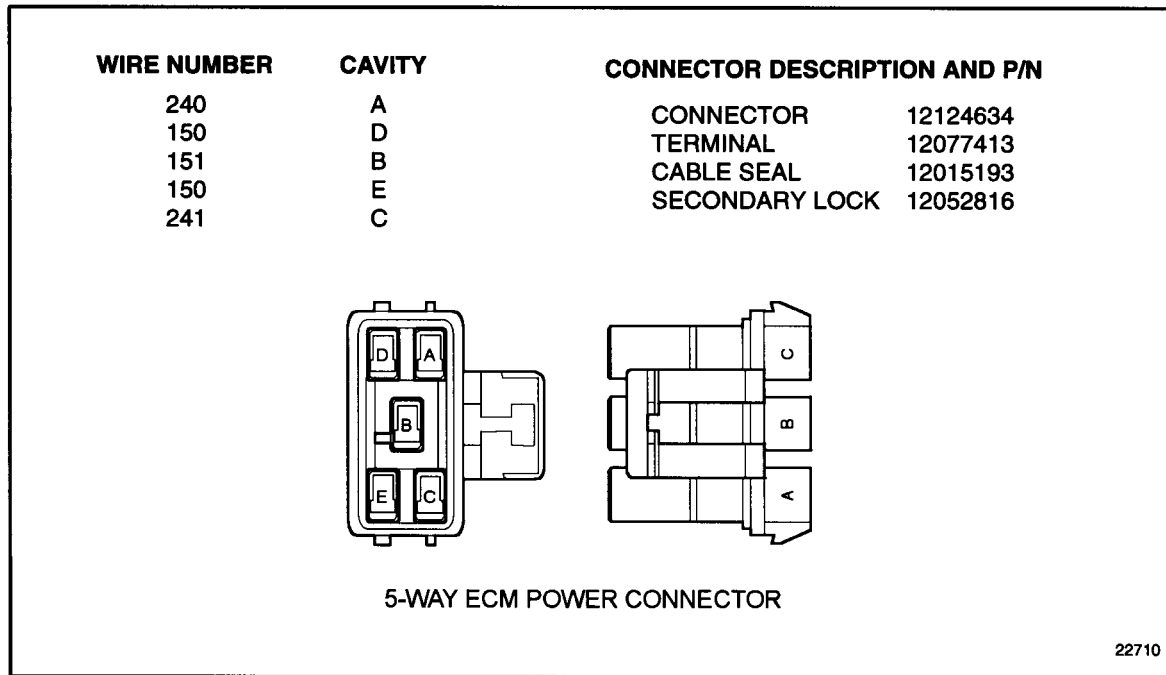

Figure 10-8 5-Way ECM Power Harness Connector
5. Check 5 amp ignition fuse or circuit breaker again. For 5-way ECM power harness schematic, see Figure 10-8.